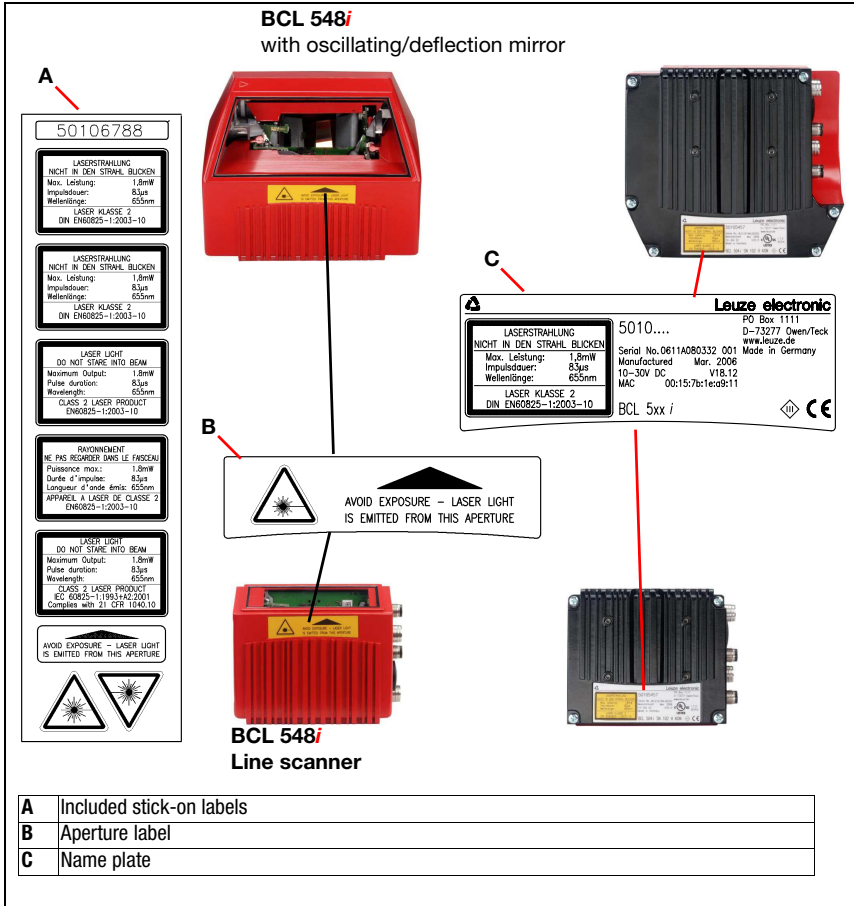

Figure 2.1: Attachment of the stick-on labels with warning notices at the BCL 548i
*It is important that you attach the stick-on labels supplied to the device (A in figure 2.1)! If the signs would be covered due to the installation situation of the BCL 548i, attach them instead in the immediate vicinity of the BCL 548i in such a way that it is not necessary to look into the laser beam when reading the notices!*